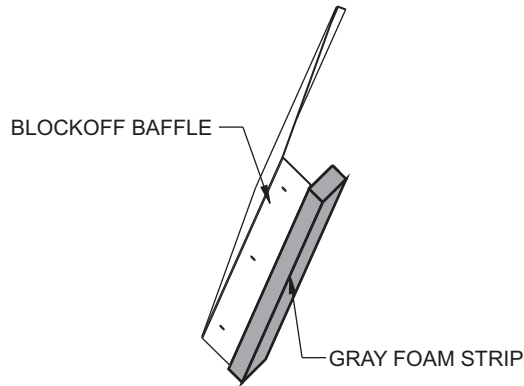

Fig. 24 — Adding Foam Strip to Block-Off Baffle
7. Attach gray foam strip (provided) to block-off baffle on outer face of flange. See Fig. 24.